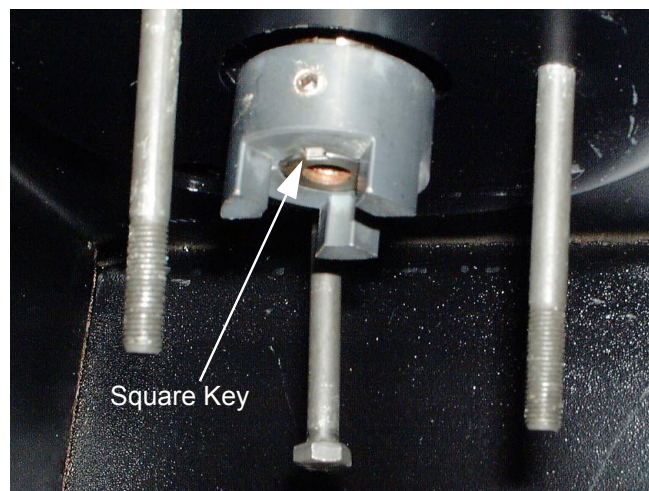

Figure 4
5. Make certain there is a square key between the engine crankshaft and the upper coupling half. \_\_\_\_\_ See Figure 4.